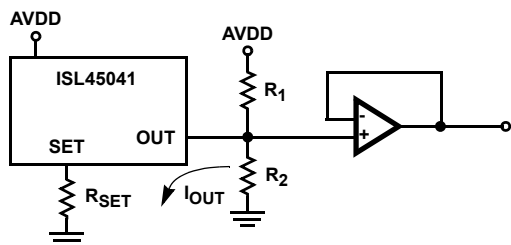
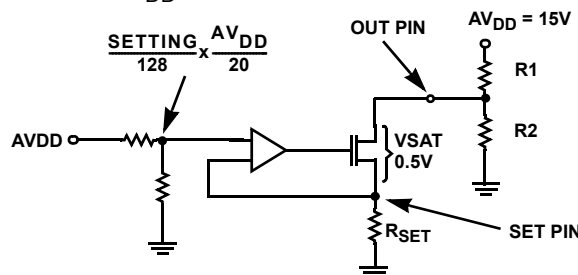

FIGURE 1. OUTPUT CONNECTION CIRCUIT EXAMPLE
FIGURE 2. OUTPUT CONNECTION CIRCUIT EXAMPLE
Electrical Specifications Test Conditions: V_{DD} = 3.3V, AV_{DD} = 18V, R_{SET} = 5k Ω , R1 = 10k Ω , R2 = 10k Ω ; (See Figure 1) Unless Otherwise Specified. Typical values are at T_A = +25°C. **Boldface limits apply over the operating temperature range, 0°C to +85°C.**
Electrical Specifications Test Conditions: $V_{DD} = 3.3V$, $AV_{DD} = 18V$, $R_{SET} = 5k\Omega$, $R_1 = 10k\Omega$, $R_2 = 10k\Omega$; (See Figure 1) Unless Otherwise Specified. Typical values are at $T_A = +25^\circ C$. **Boldface limits apply over the operating temperature range, $0^\circ C$ to $+85^\circ C$.** (Continued)
- A typical Current of 20 μA is Calculated using $AV_{DD} = 10V$ and $R_{SET} = 24.9k\Omega$. Reference "R_{SET} Resistor" in Figure 2.
The external R_{SET} resistor sets the full-scale sink current, I_{SET} maximum, that determines the lowest voltage of the external voltage divider R_1 and R_2 (Figure 1). The voltage difference between the OUT pin and SET pin (Figure 2), which are also the drain and source of the output transistor, must be greater than 1.75V. This will keep the output transistor in its saturation region to maintain linear operation over the full range of register values. Expected current settings and 7-bit accuracy occurs when the output MOS transistor is operating in the saturation region. Figure 2 shows the internal connection for the output MOS transistor. The value of the AV_{DD} supply sets the voltage at the source of the output transistor. This voltage is equal to $(\text{Setting}/128) \times (AV_{DD}/20)$. The I_{SET} current is therefore equal to $(\text{Setting}/128) \times (AV_{DD}/20 \times R_{SET})$. The drain voltage is calculated using Equation 2. The values of R_1 and R_2 (Equation 2) should be determined using I_{OUT} maximum (setting equal to 128) so the minimum value of V_{OUT} is greater than $1.75V + AV_{DD}/20$.